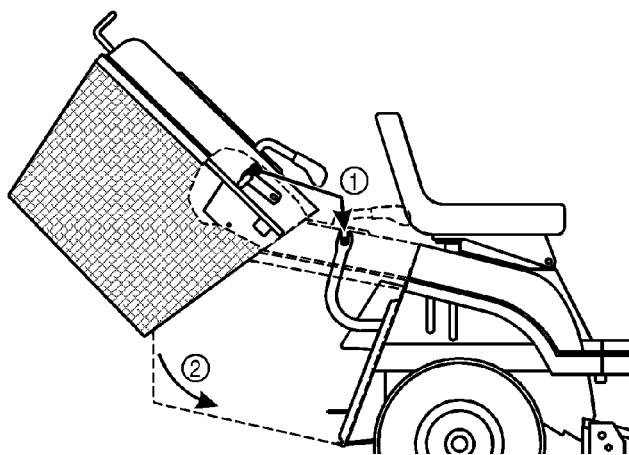

Figure 44
1. Using two hands, tip the grass collector forward (Fig. 44).
2. Tip the collector forward approximately 40 degrees and slide it onto the two support brackets at the rear of the tractor (Fig. 44). Ensure the arrow on the top of the grass collector aligns with the arrow on the tractor.